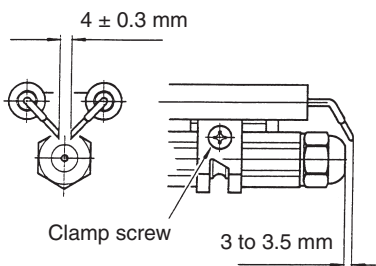

Figure 11-6: 15/21, 15/26, 26/36, 36/46 electrode settings
8. Always check the electrode settings after replacing the nozzle, see Figure 11-6.